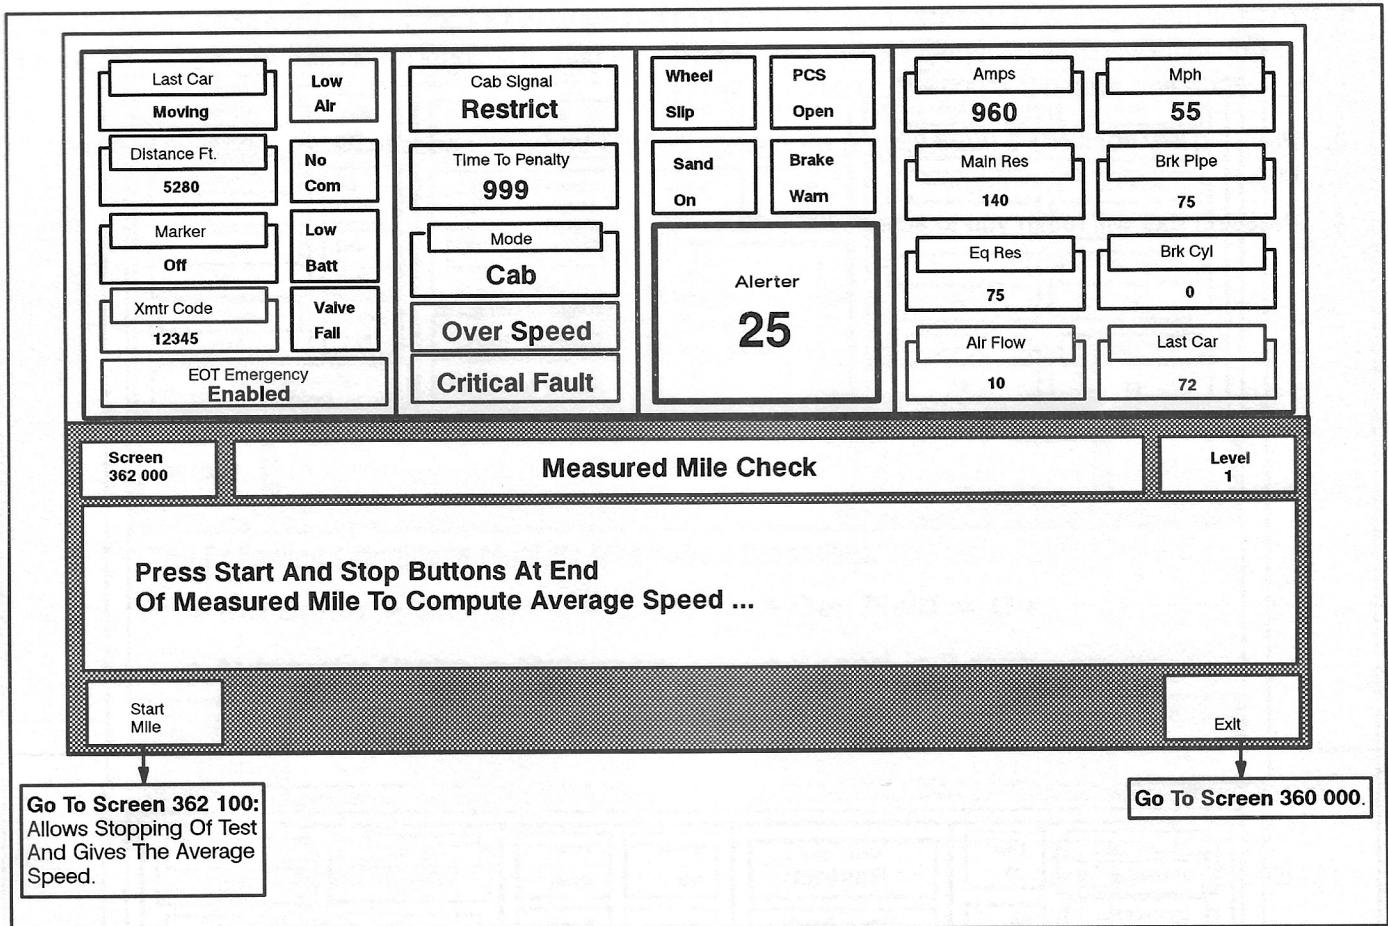

FIG. 49. MEASURED MILE TEST SCREEN (362 000). E-40986.
- Pressing key position F2 (**Measured Mile**) will display screen 362 000 (Fig. 49).